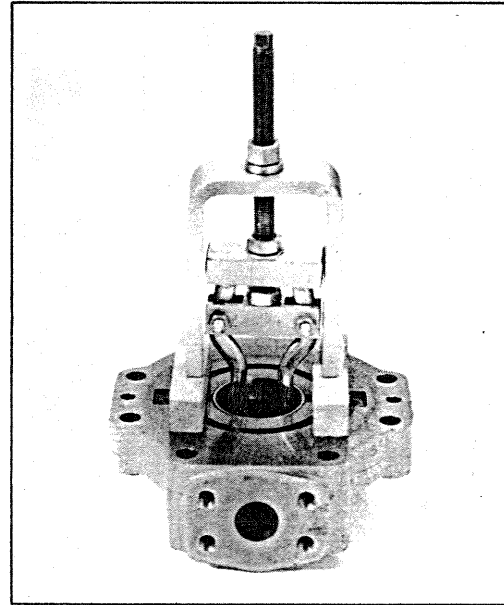
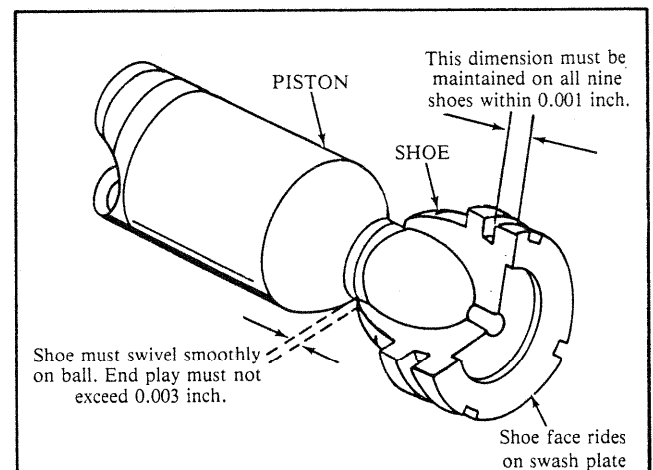

Figure 12. Removal of bearing race from valve block
Figure 14. Piston Shoe S/A Inspection
9. Remove valve plate (21) and then remove bearing (20) from shaft (15). NOTE: A bearing spacer (20a) exists on the twelfth (-12) design units. DO NOT remove shaft bearing race (20) from the valve block unless damage is evident. If removal is required, use bearing race removal tool shown in Figure 6, then refer to Figure 12.
4. Inspect bearings (13) and (20) for brinelling, pitting of rollers and roughness when turned in the bearing race. If a bearing is defective, both the bearing cone and bearing race must be replaced. If bearing race located in valve block (18) requires removal, refer to the procedure shown in Figure 12.
5. Inspect cylinder block (23) for wear, scratches and/or erosion between cylinders. Check each cylinder block bore for excessive wear. Use the piston and shoe subassemblies (32) for this purpose. The piston should be a very close fit and slide easily in and out of the bore. No bind can be tolerated. If binding is evident, clean the cylinder block and piston. Lubricate with clean system fluid and try again. Even minor contamination of the fluid could cause the piston to freeze up within the cylinder block bore.
6. Inspect each piston shoe subassembly (32) for a maximum end play of 0.762 mm (0.003 inch); also, check for freedom of movement of the shoe. The shoe must be free to rotate through 17° minimum (spherical). Piston shoe face thickness should not vary greater than .0254 mm (.001 inch) from one shoe to another.
At overhaul, the replacement of all 9 piston and shoe subassemblies in the unit, as well as the cylinder block, is recommended for maximum overhaul life. Figure 14 illustrates piston (32) specifications.